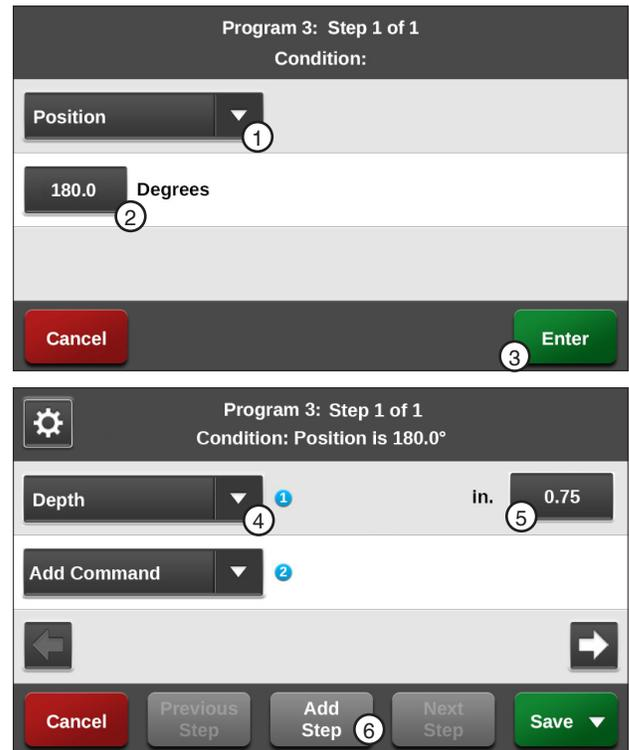

Figure 129-1 1. Position Condition 2. Degrees 3. Enter 4. Depth Command 5. Inches 6. Add Step
- a) Select the **Choose Condition** drop-down menu and choose **Position**. Refer to Figure 129-1.